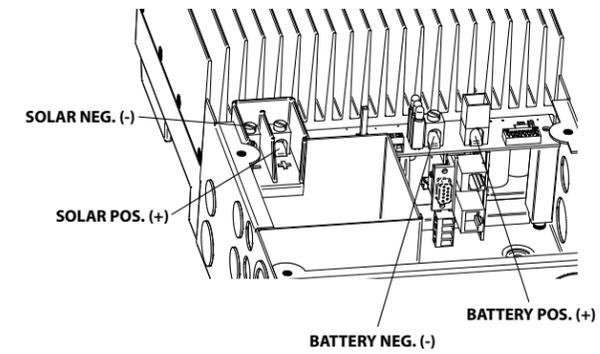

Figure 3-14. Power Terminal Locations
**Connect the four (4) power conductors shown in Figure 3-14 as described in the following steps:**
7. Connect the battery (+) wire to the battery (+) terminal on the TriStar MPPT 600V. The battery (+) terminal has a red cover. See Figure 3-14.
8. Connect the battery (-) wire to the battery (-) terminal on the TriStar MPPT 600V. See Figure 3-14.
9. Replace cover, and secure with four (4) screws.